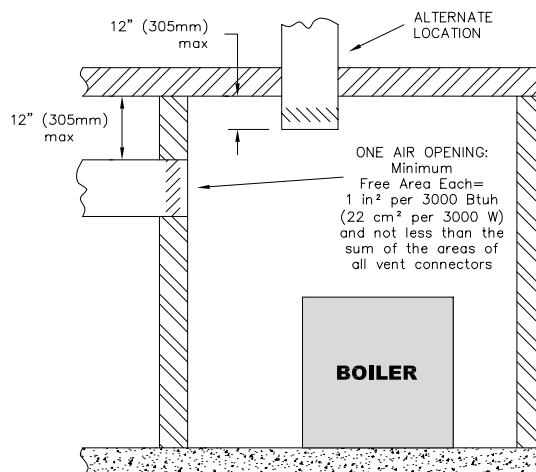

Figure 1.6: Air Openings – All Air from Outdoors through One Opening
b. **One Permanent Opening Method:** Provide one permanent opening beginning within 12 inches (305 mm) of the top of the space. The opening shall communicate directly with the outdoors, communicate through a vertical or horizontal duct, or communicate with a space that freely communicates with the outdoors. The opening shall have a minimum free area of 1 in2 per 3000 Btu/hr of total rated input for all appliances in the space and not less than the sum of the cross-sectional areas of all vent connectors in the space. The gas-fired equipment shall have clearances of at least 1 inch (25 mm) from the sides and back and 6 inches (150 mm) from the front of the appliance. See Figure 1.6 for this arrangement.